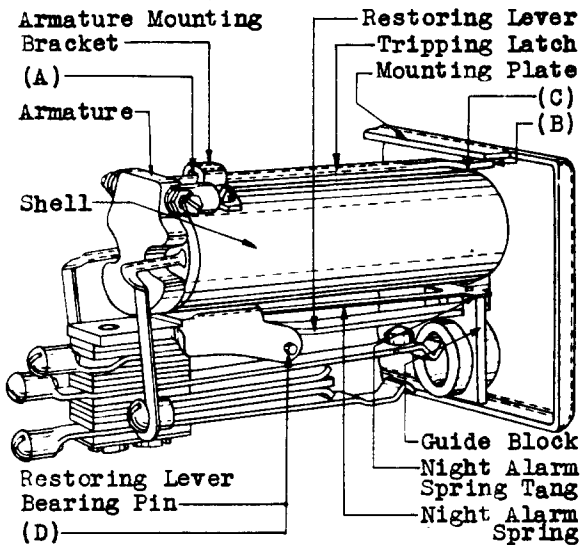

Fig. 3
*(a) Fig. 3 (A) - The tripping latch shall not touch the sides of the armature mounting bracket when the armature side play is taken up. Gauge by feel.
(b) Fig. 3 (B) - The tripping latch shall not touch the sides of the slot in the mounting plate when the armature side play is taken up. Gauge by feel.
(c) Fig. 3 (C) - When the signal is in the unoperated position the tripping latch shall touch the shell at the point nearest the mounting plate but shall not touch the shell at any other position. Gauge by eye.
(a) Fig. 3 (D) - The restoring lever shall move freely on its bearing pin. Gauge by feel.